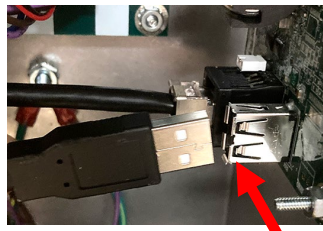

Figure 41
38. Attach the other end of the USB cable from the previous step to the USB port on the KCCM board (see Figure 41).